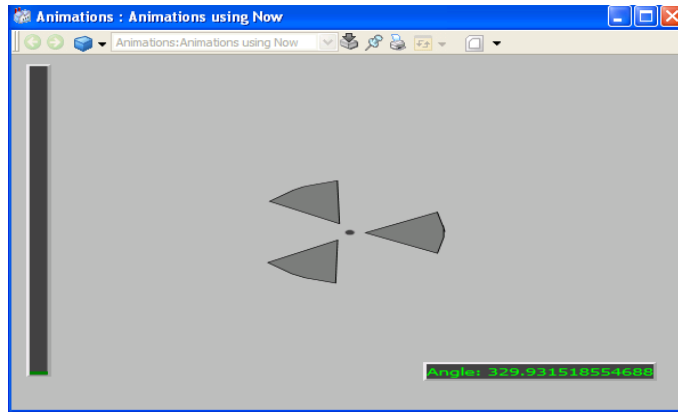

Figure 182. Main View of Animations
Figure 182 shows the main view of the **Animations using Now** display.
1. Place an **Ellipse** and three **Polygons** (**Toolboxes > Shapes**) into the edit panel. Refer Figure 182.